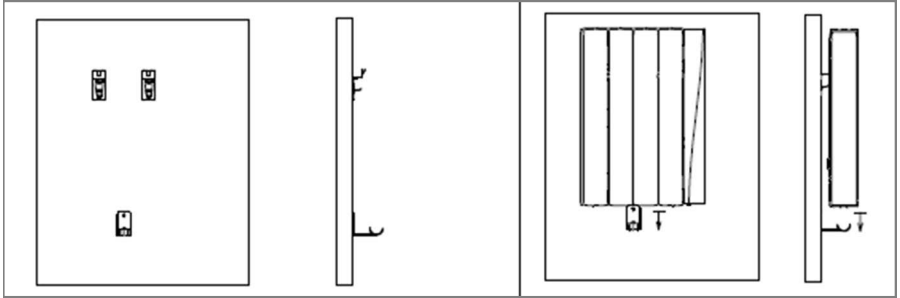

Figure 4 | Mounting the radiator on the wall
6. Gently lower the radiator so that it locks into the lower bracket, as shown in **Figure 4**.